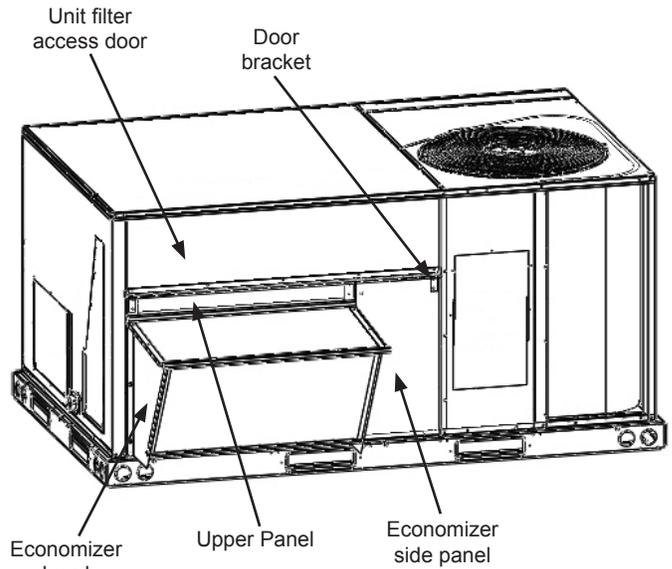

Figure 11
6. Screw hood to unit as shown in figure 11.
2. Install side panel to the right side of hood, see figure 11. Screw panel to economizer on left side, and into door bracket on right side of panel.